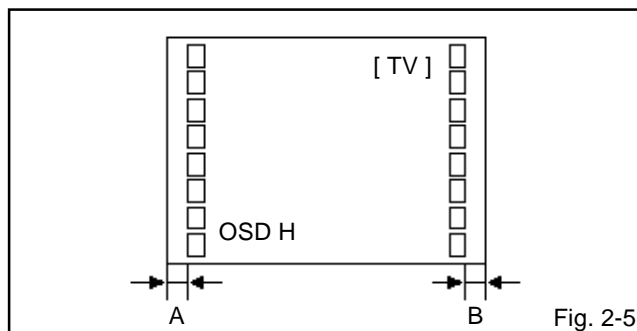

Fig. 2-5
4. Press the PLAY or STOP button on the remote control until the difference of A and B becomes minimum. (**Refer to Fig. 2-5**)